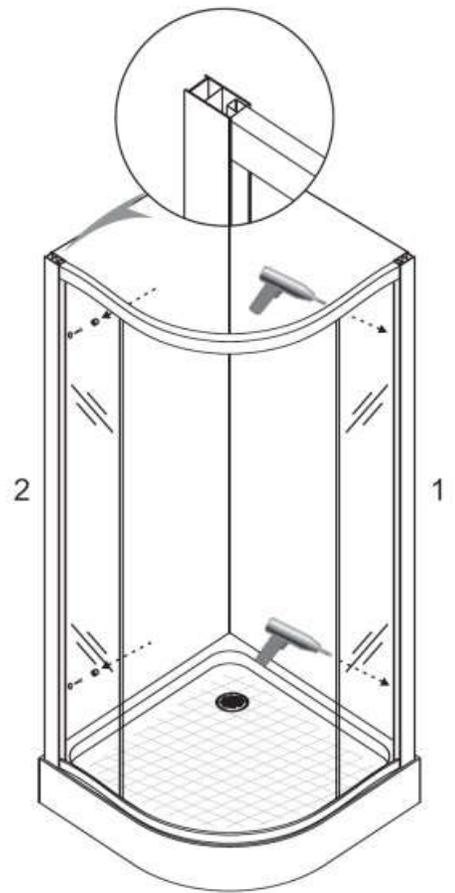

Figure 6
- Fasten the wall jamb adaptors to the wall jams with screws through the pre - drilled holes in the wall jams. As shown in figure 6.